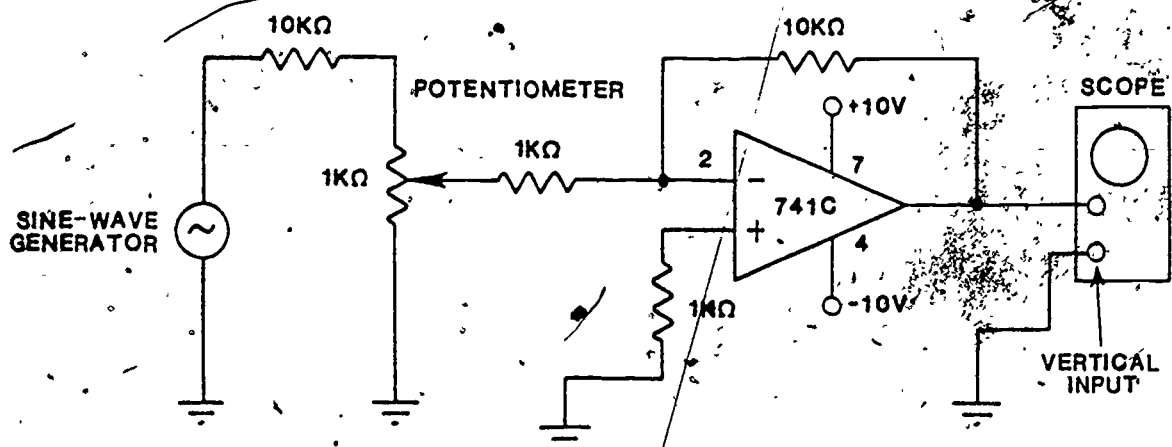

Figure 17. Inverting Amplifier.
1. Construct the circuit (shown in Figure 17) for an inverting amplifier.